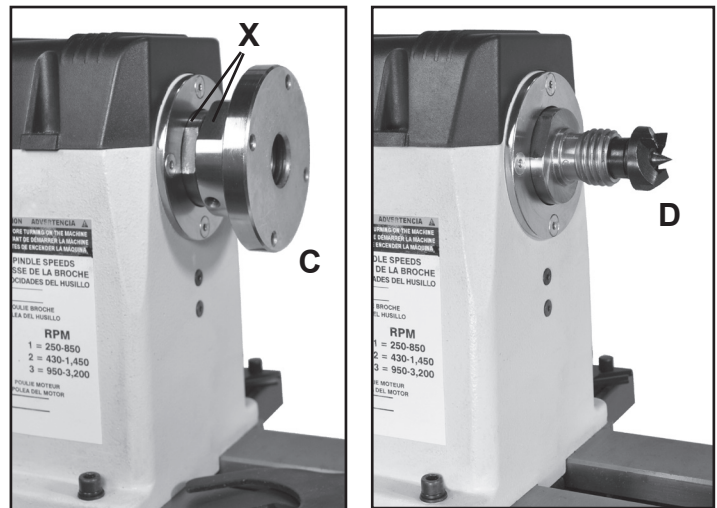

FIG. 2
3. **HEADSTOCK FACEPLATE:** Faceplates (#22B, FIG. 2, C) are used for turning bowls and plates. The screw holes in the plate are for mounting the workpiece for turning.
- To remove the faceplate, loosen the set screws. Use the supplied 38mm Wrench on the flat portion of the spindle (FIG. 2, X) and the 46mm Wrench on flats of the faceplate's rear hub, then loosen the faceplate from the spindle. Rotate the faceplate counter-clockwise to fully remove it from the spindle.
4. **HEADSTOCK SPUR CENTER:** The Spur Center (#23B, FIG. 2, D) is used for turning between centers. It fits into the spindle. Both the spindle and spur center have matching MT-2 tapers. The spur center can be removed from the spindle with the long Knockout Bar (K) inserted through the outboard left end of the spindle. **NOTE:** Be careful and hold the spur center during this process so it does not fly out onto the floor. A short Knockout Bar (L) is supplied to remove the Spur Center's Center Point, if it needs replacing.